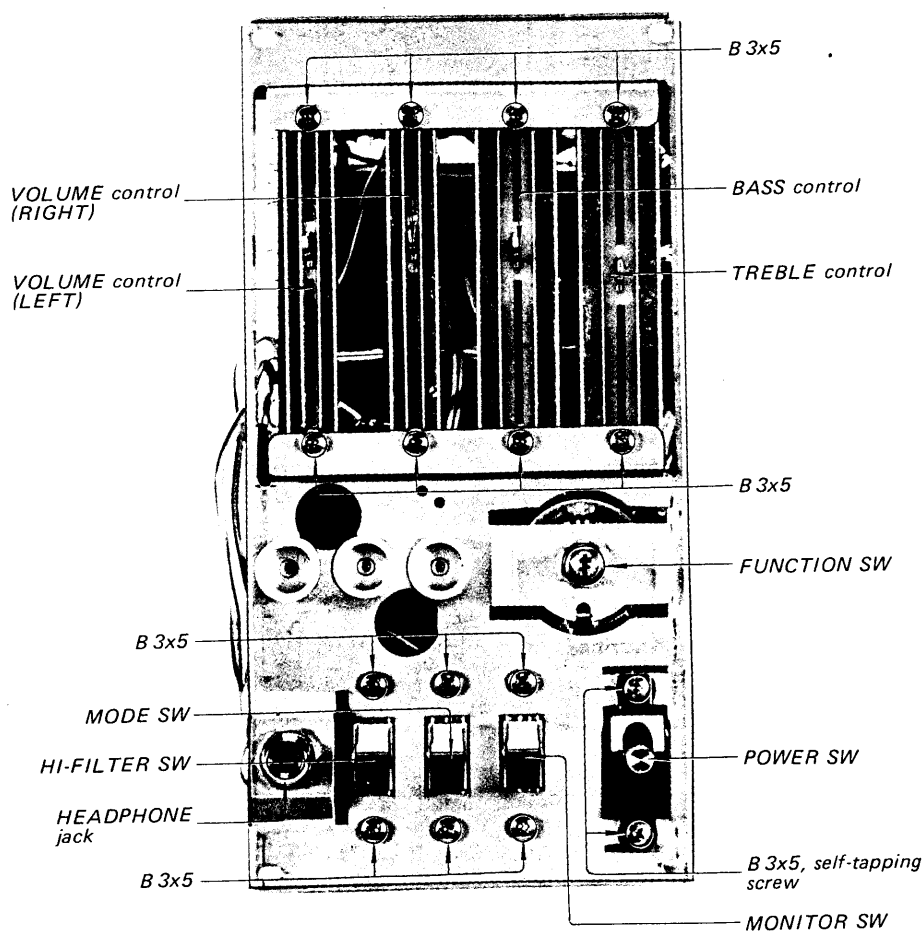

Fig. 2-5. Switch and control replacement
2. Remove the screws and nuts securing the switches and controls to the front subchassis (See Fig. 2-5), and then install a new one.